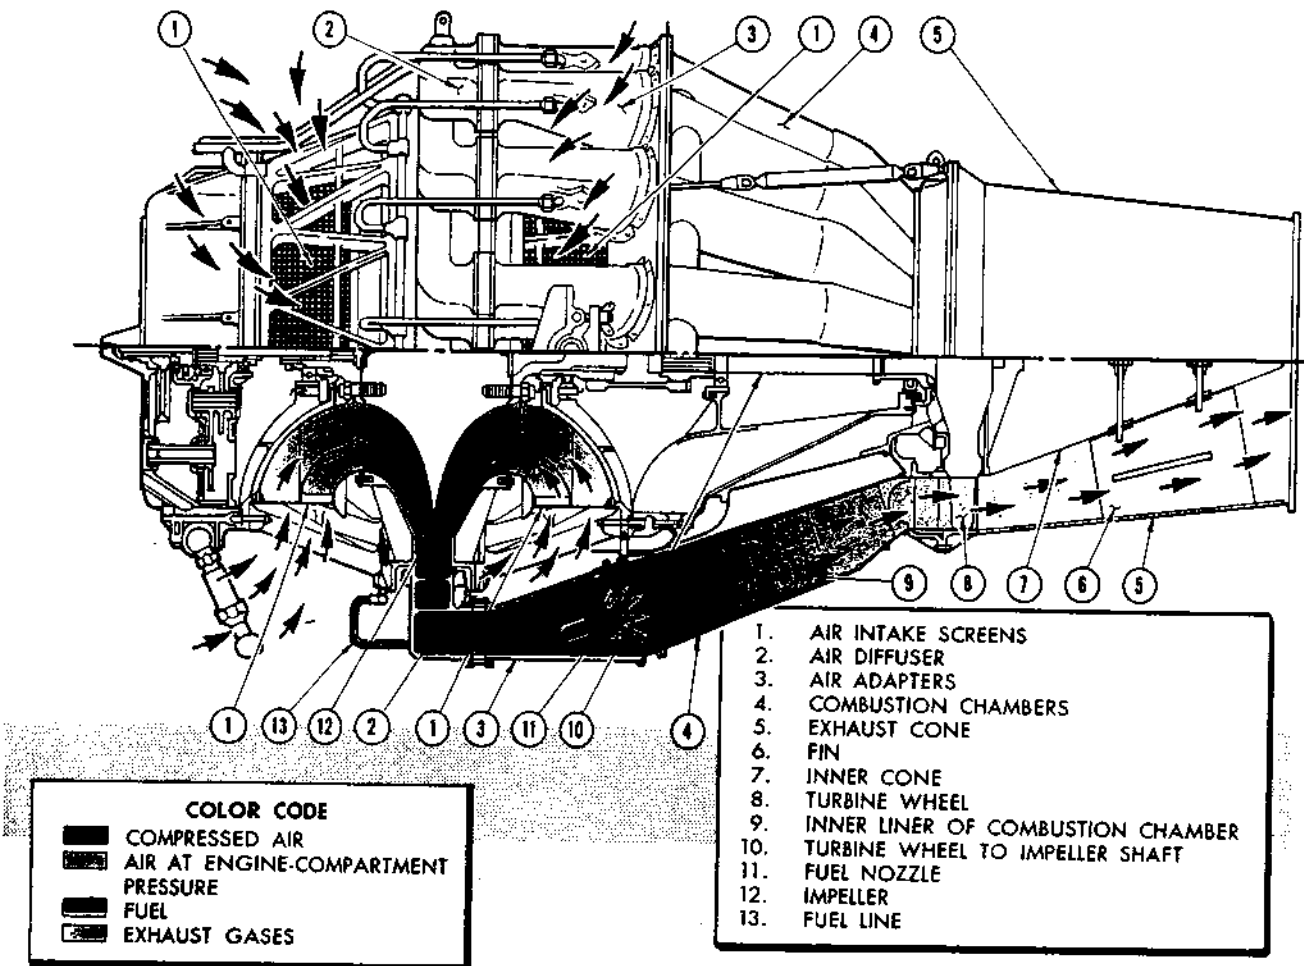

Figure 95 — Engine Induction and Exhaust System
c. ENGINE INTAKE SYSTEM. (See figure 95.)—Air at engine-compartment pressure enters the engine compressor on both sides of the double-inlet multi-vaned impeller wheel. The air is compressed and forced out through the diffusers and air adapters into the combustion chambers. Each combustion chamber consists of an outer wall and an inner perforated liner. The compressed air is forced between the outer wall and inner liner and through the perforations into the interior of the chamber. The compressed air admitted to the inner chamber is mixed with fuel from the fuel nozzle, and burned. The exhaust gases pass through the turbine wheel. The turbine wheel is directly connected to the impeller, and drives the impeller and the accessories. The gases leaving the turbine wheel enter the exhaust cone and the tail pipe. The exhaust cone consists of a short tapered pipe covering an inner cone. It contains four fins to straighten the flow of gas as the gas leaves the turbine wheel.